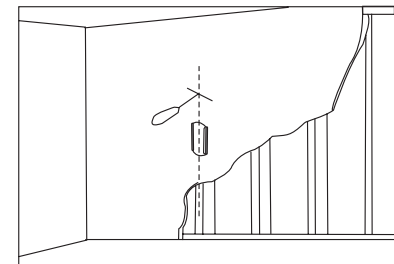
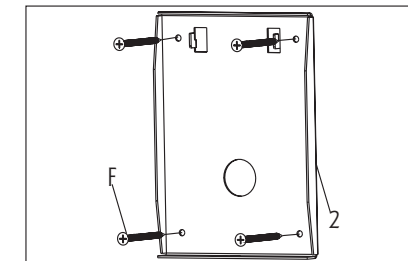

Fig2a
Fig2b
First determine the required position in the wall. Mark 4 locations at the wall according to the holes in the Wall Plate(2), according to the Fig 2a. Then pre-drill 50mm (at least) deep hole with a 3mm drill bit. Fix the Wall Plate(2) to the wall by bolt (F), as the Fig 2b shows. Please note the hooks in the Wall Plate(2) is up.